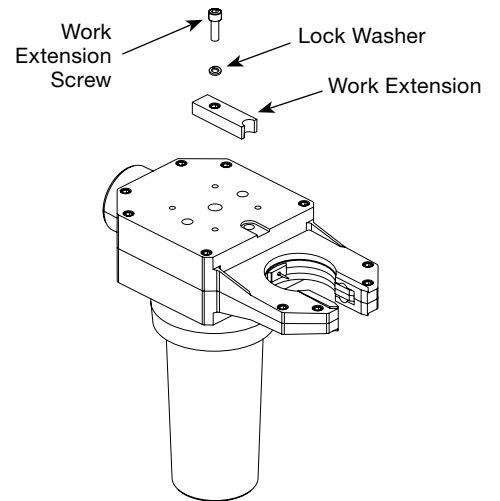

Figure 31 Removing the Work Extension
3. Remove the work extension screw with the lock washer, and the work extension. Inspect the work extension for pitting, wear, or damage. See Figure 31.